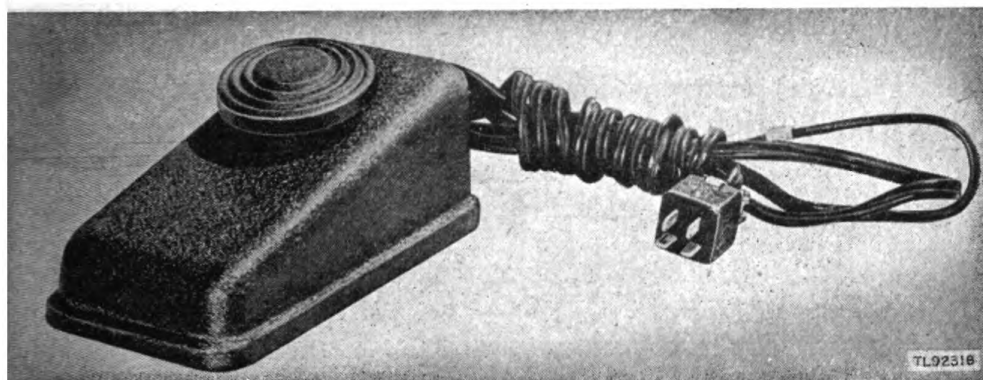

Figure 8. Foot-operating switch.
g. FOOT-OPERATING SWITCH (fig. 8). The foot-operating switch consists of a casting designed for placement on the floor. Inside is a switch operated by a foot button. A four-prong male plug is attached to one end of the 12-foot cord.